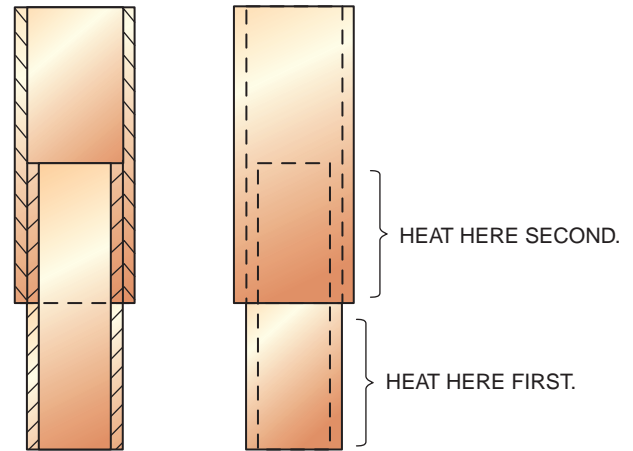

FIGURE 5-52 2G vertical up position.
1. Mount the pipe in a vertical up position, **Figure 5-52**.